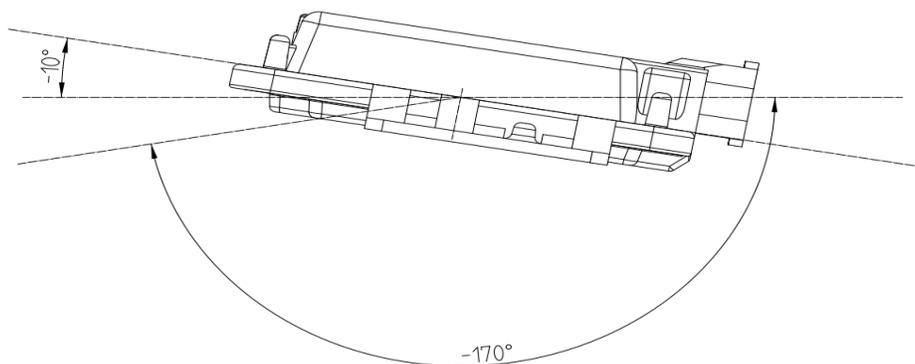

Figure 13 Horizontal Installation Angle
7. ZCU should be installed in the horizontal and vertical position according to the connector downwards and maintain a certain angle to prevent water from entering the connector. In the horizontal direction, the recommended installation angle is -170° to -10° , as shown in Figure 13 below. In the vertical direction, the recommended installation angle is -170° ~ -10° , as shown in Figure 14 below.